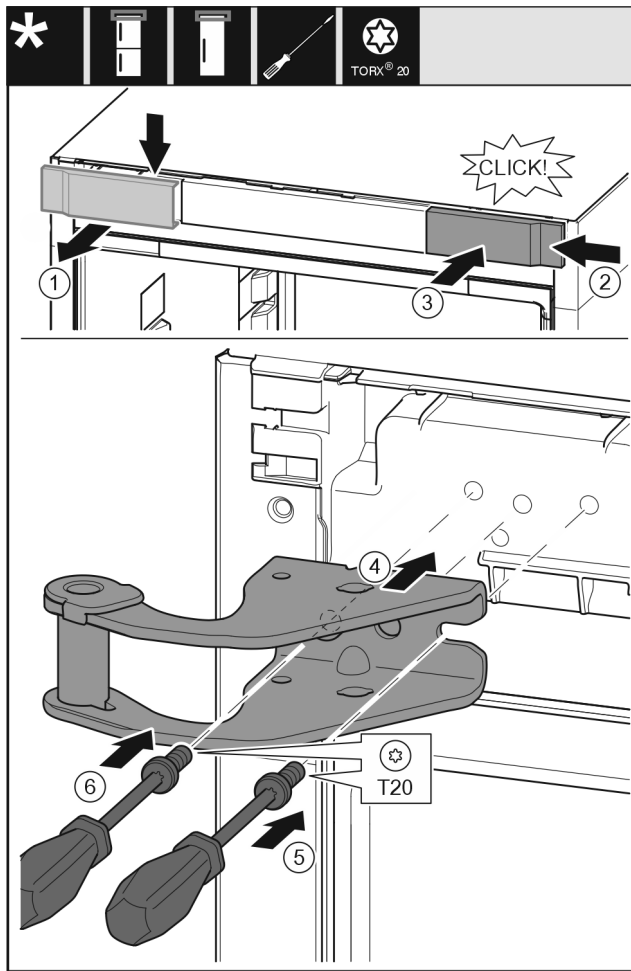

Fig. 10
- ▶ Take off the cover to the front from above. Fig. 10 (1)
- ▶ Rotate the cover 180° and clip onto the other side from the right. Fig. 10 (2)
- ▶ Latch the cover into place. Fig. 10 (3)
- ▶ Position the upper bearing bracket. Fig. 10 (4)
- ▶ Insert the screw with a T20 screwdriver and tighten it. Fig. 10 (5)
- ▶ Insert the screw with a T20 screwdriver and tighten it. Fig. 10 (6)